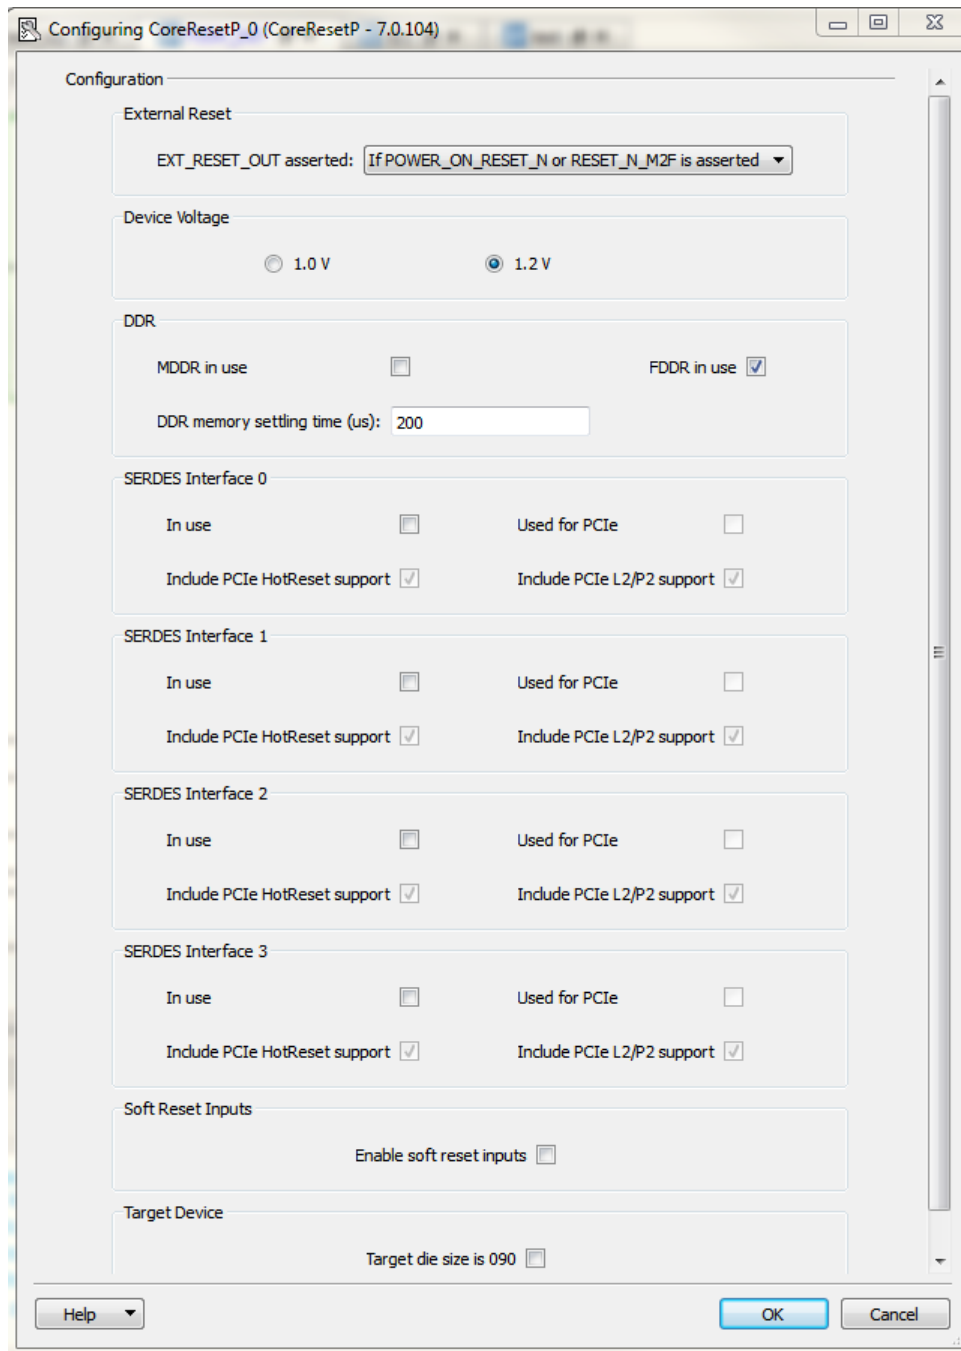

Figure 17. CoreResetP Configurator
2. Double-click the core inside the SmartDesign Canvas to open the Configurator (Figure 17 – CoreResetP Configurator)